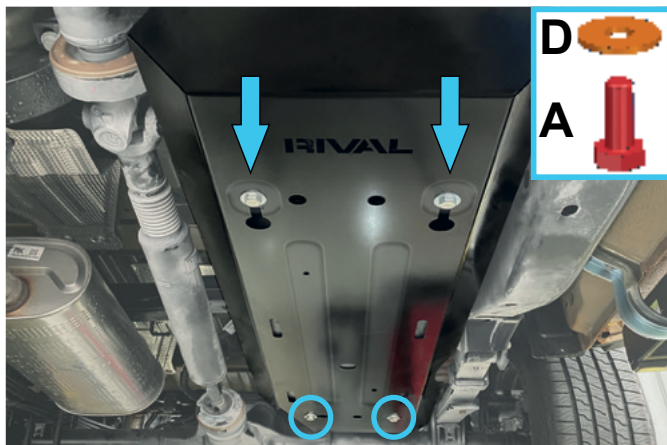

Fig. 8
7. Slide fuel tank skid plate (item 1) over the previously M10x25 bolts and washers M10 from step 6. Secure the rear of the skid plate to the previously installed rear mounting bracket (item 3) using M10x25 bolts (item A) with M10 washers(item D) as shown in fig.8.